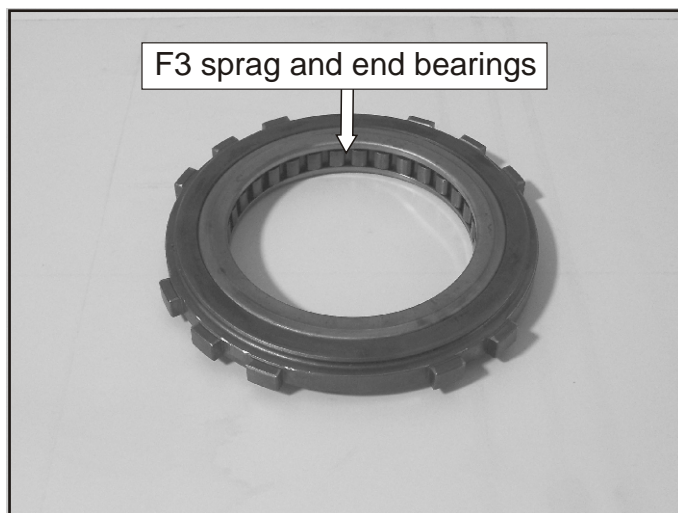

Figure 149
95. Remove the F3 sprag and end bearings from the outer race as shown in Figure 149.